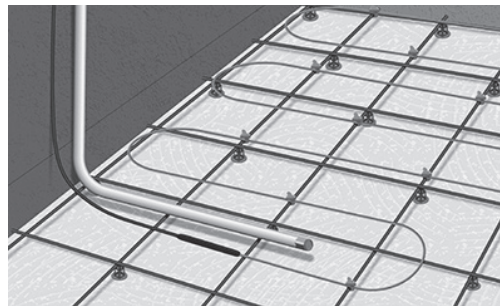

Fig. 6. Place conduit pipe/sensor between the cables
8. Fit a conduit pipe for the floor sensor if desired. Make sure the sensor is placed in the same level as the cable and between loops. Seal the end of the conduit pipe (Fig. 6).